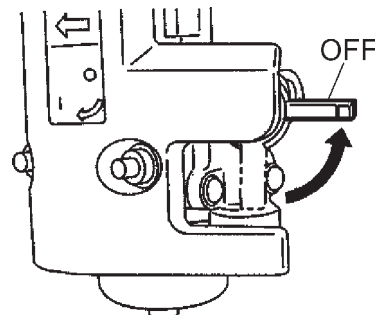

Figure 21. Fuel Valve Lever (OFF)
- Place the **fuel shut-off lever** (Figure 21) in the **OFF** position.